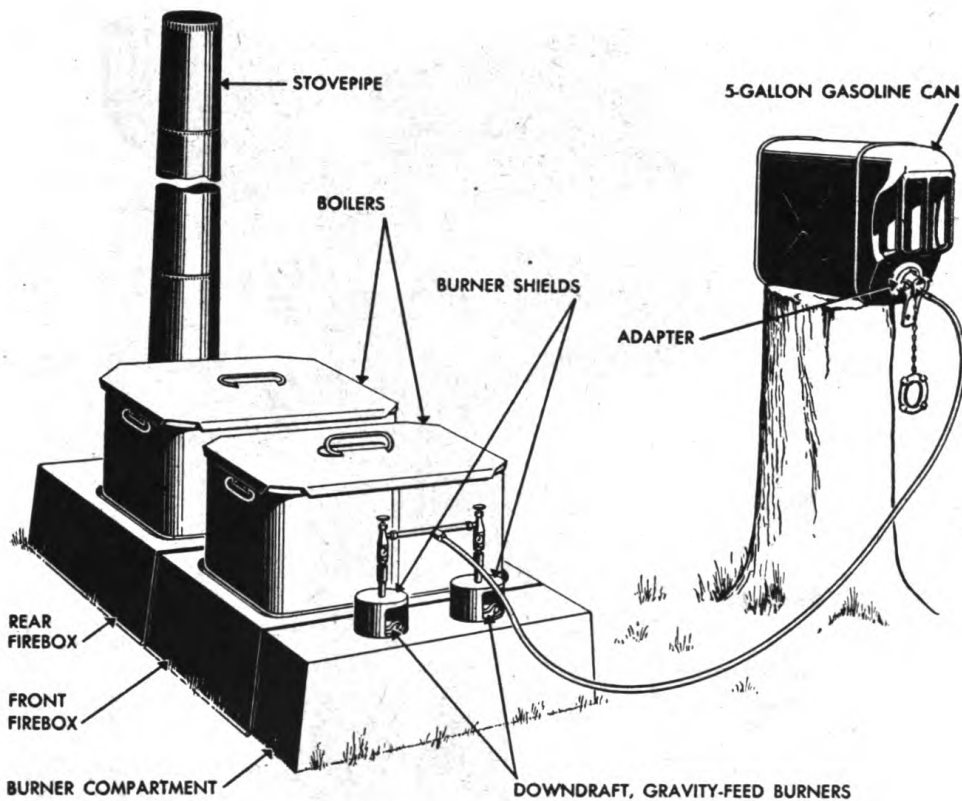

Figure 1. Outfit, cooking, pack (64-0-214) assembled for operation. Fuel container is placed at higher level than burners to provide gravity-feed.
- a. The pack cooking outfit (fig. 1) has been designed to replace the
3. How to Assemble Range (fig. 1)